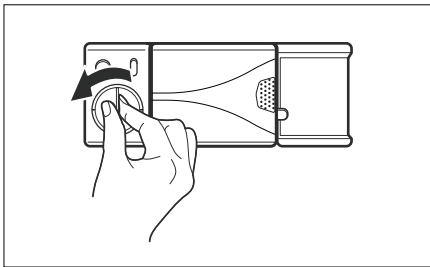

Fig. 3
2. Open the rinse aid dispenser as shown in Fig.3.